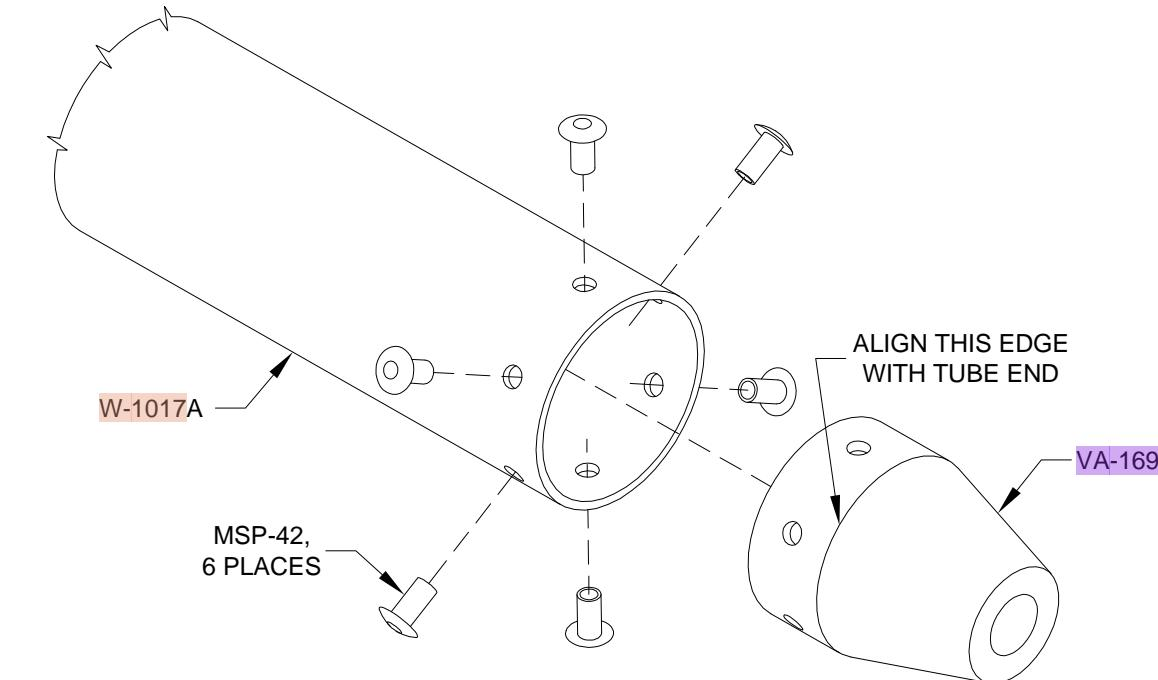

FIGURE 2:
Permanently install the threaded rod ends to the torque tube to bellcrank pushrods using the rivets called-out in Figure 2.
Step 3: Insert a **VA-169** Threaded Rod End into the end of one of the **W-1017A** Torque Tube to Bellcrank Pushrods. Proper engagement of the threaded rod end in the torque tube to bellcrank pushrod is when the end of the tube coincides with the edge of the taper in the threaded rod end. See Figure 2.